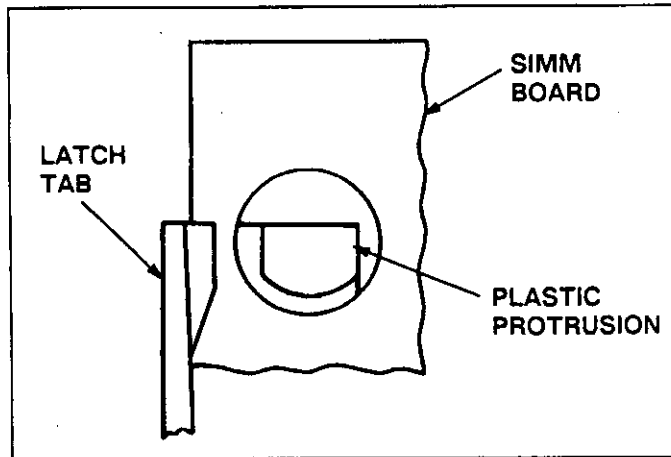

Fig. 3
4. Maintaining an even pressure over the length of the module board and rotate the module board forward until the edges of the board ends snap behind the latch tabs of the connector. A slight force may be required to engage the latch tabs at both ends of the connector with the latches engaging simultaneously. See Figure 3.